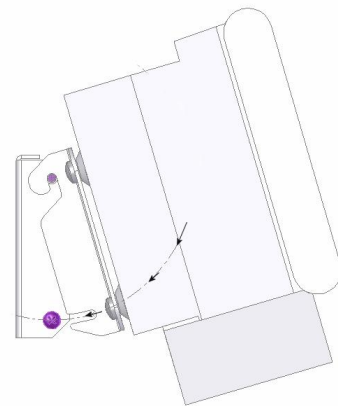

Figure 20. Connect Bottom of Speaker Bracket to Wall Bracket
4. Swing the speaker down to engage the bottom slots onto the bottom screws (see Figure 20).